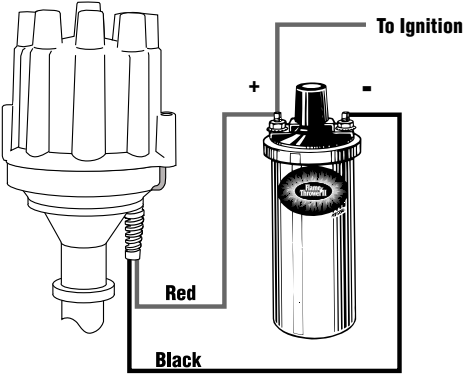

FIGURE 3
- 2. Attach the black Ignitor II wire to the negative coil terminal. Attach the red Ignitor II wire to the positive coil terminal. (See Figure 3)